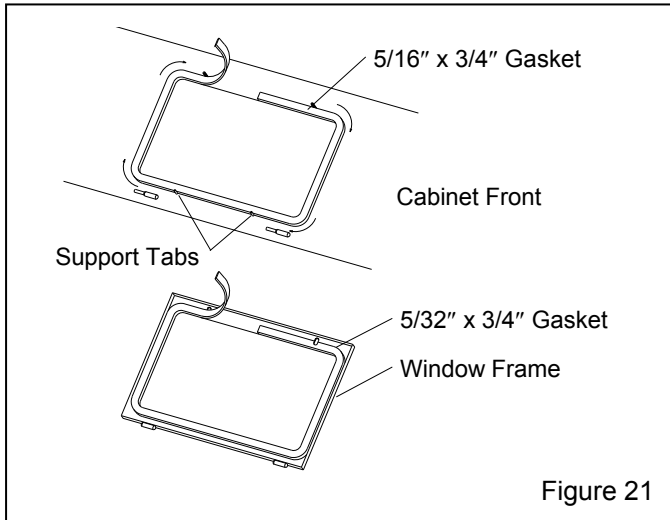

Figure 21
7.5 Window Gasket Replacement, Figure 21
7.5.4 Peel a short section of adhesive backing from the 5/16"-thick strip gasket, and adhere the gasket to the center of the top edge of the window opening, as shown in Figure 21. Peel additional backing as needed, and work the strip around the radius of each corner, pressing it firmly to bond. Trim the gasket to fit and compress the ends to seal.